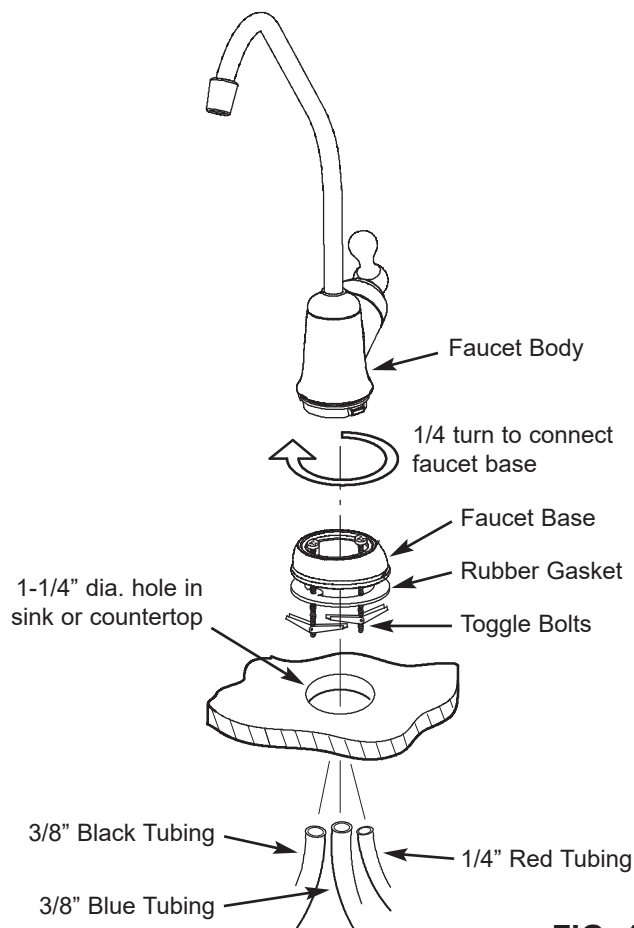

FIG. 15
1. Locate and organize your RO faucet install parts. Refer to Fig. 15.
7. Mount the faucet body on to the faucet base, 1/4 turn. See Figure 15.